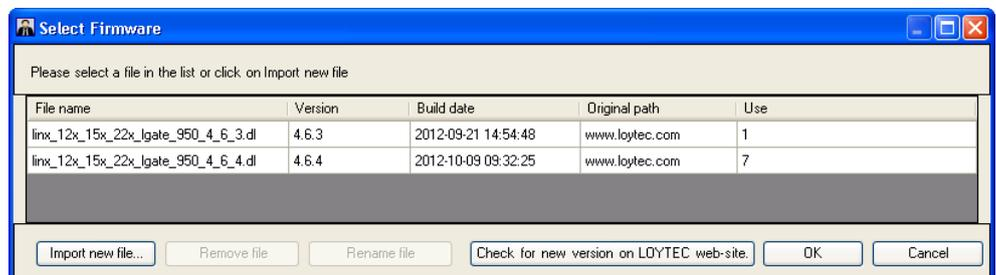

Figure 190: Select Firmware Dialog
3. The **Select Firmware** dialog opens as shown in Figure 190. The dialog displays a list of compatible firmware files available in the LWEB-900 database. If the desired firmware version is already available in the list, select it and press **OK**. You can either import a new firmware file from the hard disk or check if a new firmware is available on the LOYTEC web site: